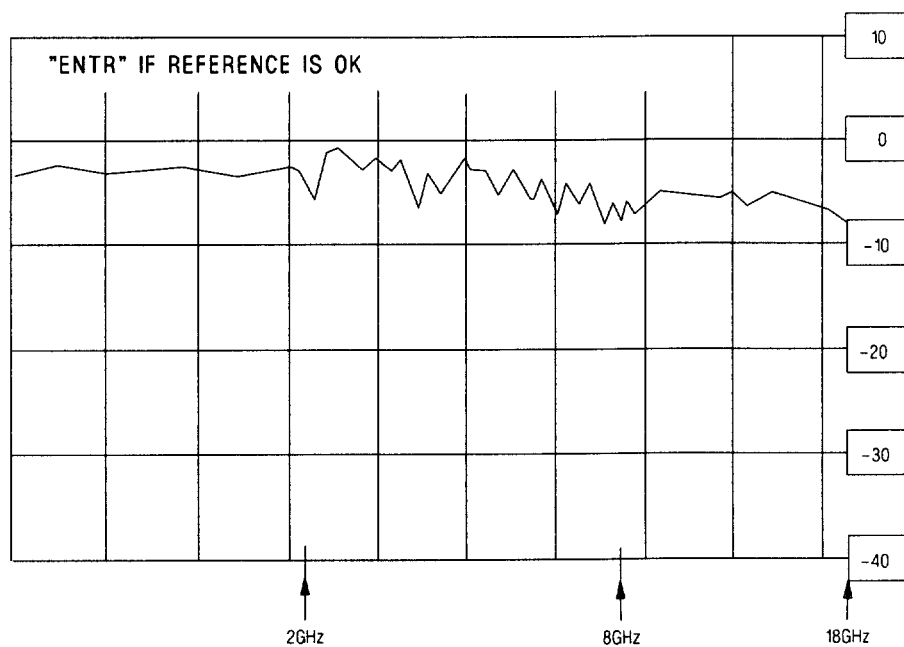

Figure 1. Typical Reference Sweep Display
f. Reference sweep has a gradual curving line with no large spikes, dropouts, or long flat spots inside the passband (figure 1).
i. Reference sweep has a gradual curving line with no large spikes, dropouts, or long flat spots inside the passband (figure 1).